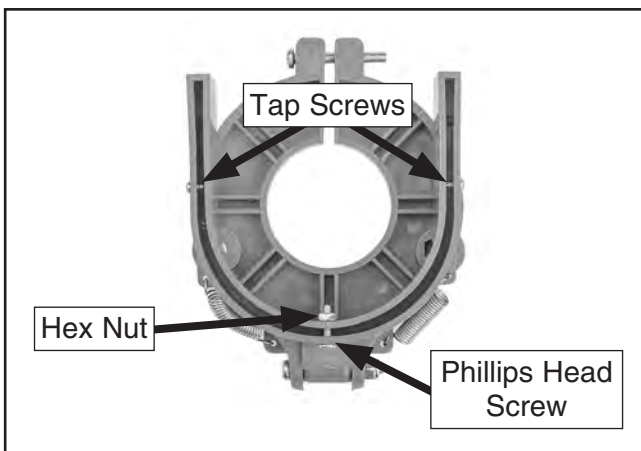

Figure 2. Location of chuck guard seat screws.
5. Remove (2) pre-installed tap screws, Phillips head screw, and hex nut (see **Figure 2**) from chuck guard seat.